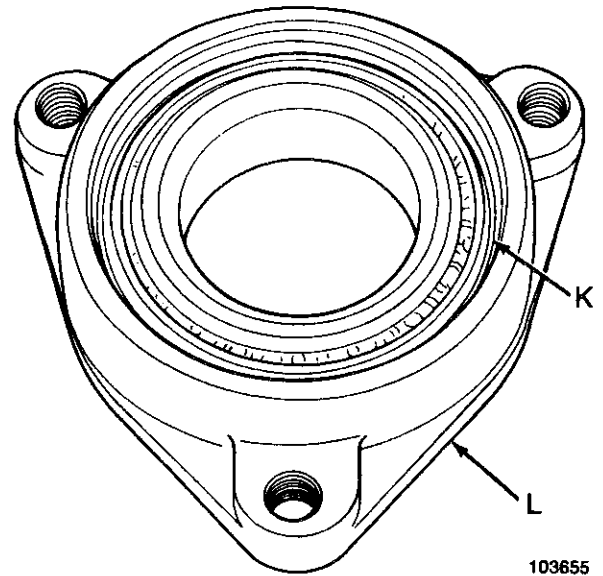

Fig. 12
6. Pack outer bearing (K) (Fig. 12) and coat race with AMC/Jeep/Renault All Purpose Lubricant P/N 8993630.
7. Place bearing (K) into bearing carrier (L), (Fig. 12).